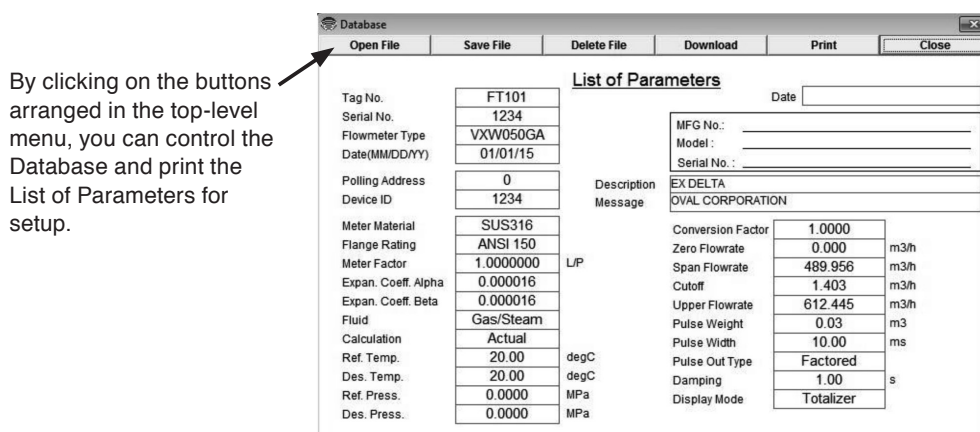

Fig.62
- ④ The file data selected are shown in a format like the one shown in Fig. 62.